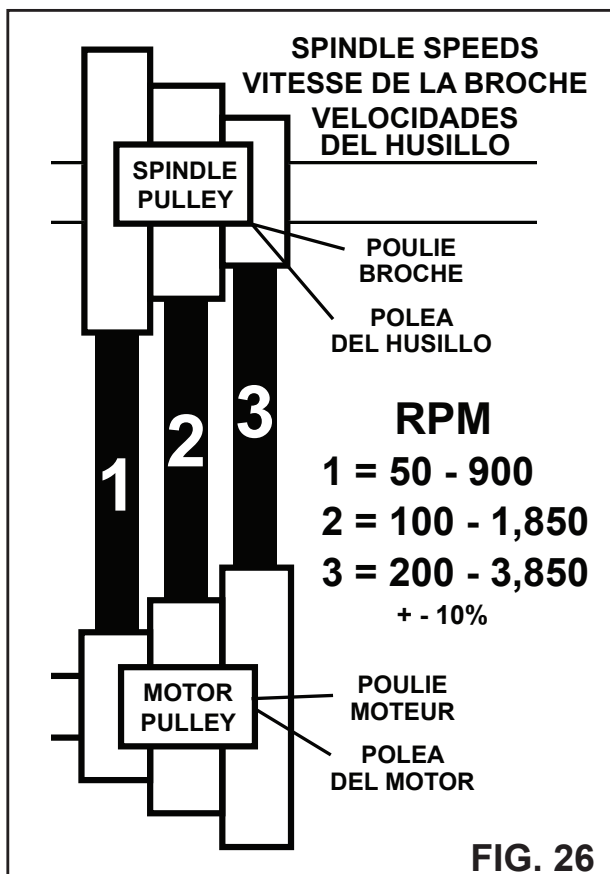

FIG. 26
B. 'ON' BUTTON: Push the green Button so that it turns the lathe ON. Push the red Button (D) to turn the lathe OFF.
C. RPM KNOB: This knob controls the desired spindle revolutions per minute (RPM). Spindle speeds are shown on the LCD Display (E). See the Speed Chart below for the 3 speed range settings. FIG. 26.